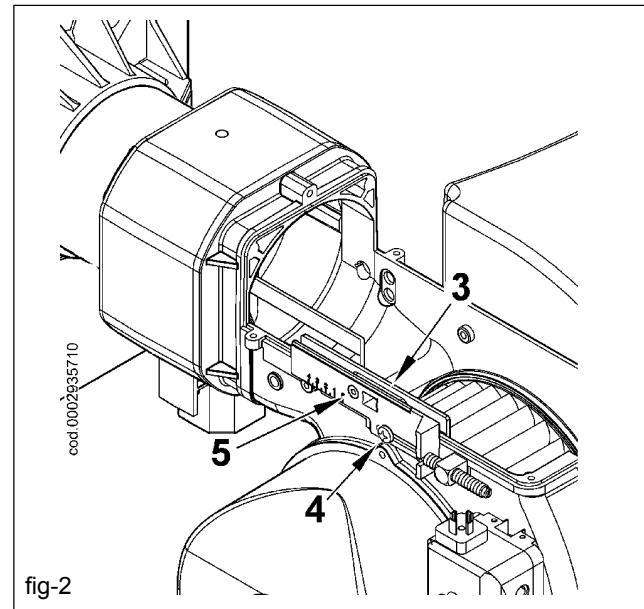

fig. 2
- 2) Make sure that mobile plate 3 is held in place by screw 4. This will permit the mixer unit to be reassembled in the position adjusted previously after completion of maintenance work. Slacken screw 5, which anchors the unit's forward movement rod to the mobile plate (figure 2).